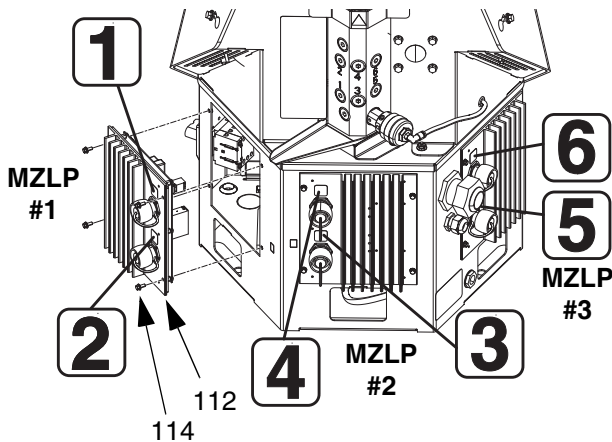

FIG. 47
2. Remove electrical enclosure front access door (10).
3. Disconnect heated hose electrical connectors from outside of MZLP (112).
4. Note location of each cable, then unplug all cables from the MZLP (112) that will be replaced. See FIG. 47.
5. Remove four screws (114) securing MZLP (112) to electrical enclosure (1) then carefully remove MZLP from electrical enclosure. See FIG. 47.
6. Replace MZLP. See FIG. 47 for MZLP #1, MZLP #2, and MZLP #3 identification.
- b. To replace MZLP #3, remove the jumper (135) from MZLP #3 J5 connector and reinstall it on the new MZLP #3 J5 connector.
2. Apply channel label stickers to new MZLP. See FIG. 47.
3. Use four screws (114) to install MZLP (112) to electrical enclosure (1).
4. Reconnect cables to MZLP (112).